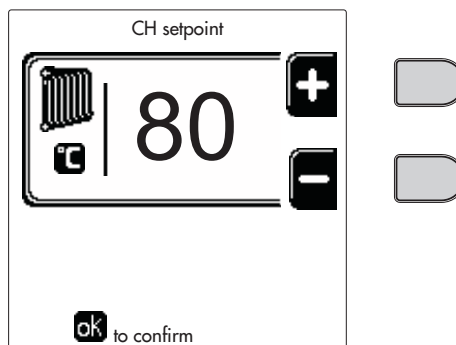
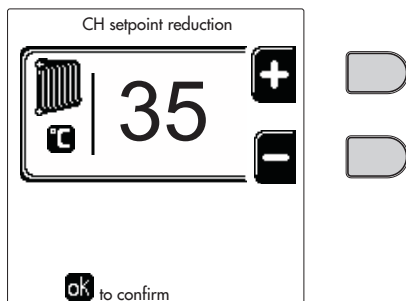
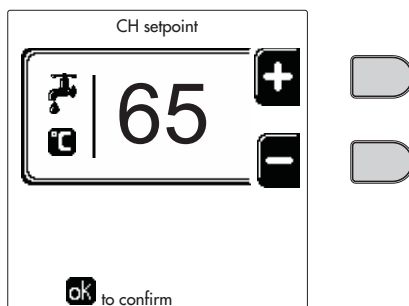
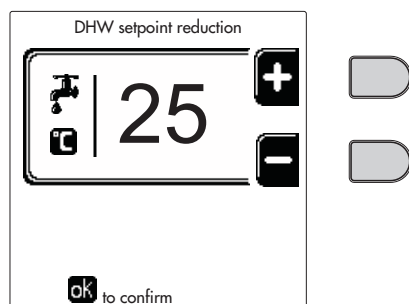

fig. 12
fig. 13
fig. 14
fig. 15
- **ON**. In case of a Heating/DHW demand, the boiler works at the set Heating/DHW (fig. 12/fig. 14) Adjustment Temperature.
- **+**. In case of a Heating/DHW demand, the boiler works at the Reduced Adjustment Temperature. The Reduced temperature is obtained by subtracting the Reduction Adjustment Temperature value (fig. 13/fig. 15) from the set Heating/DHW Adjustment Temperature (fig. 12/fig. 14).